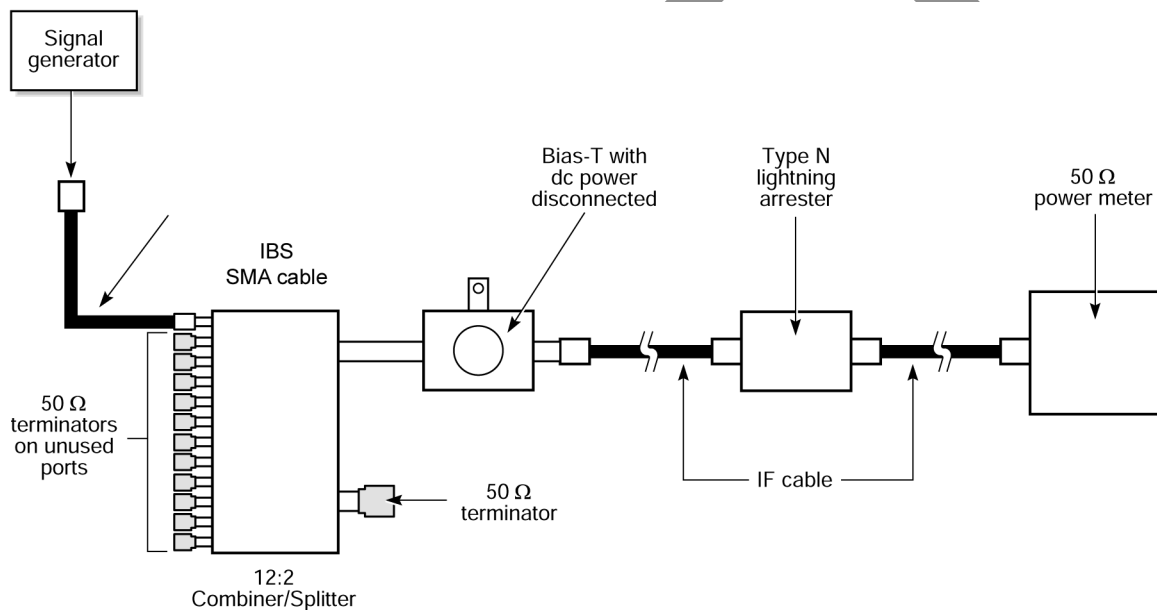

Figure 82 – BS IF cable calibration equipment setup
Figure 82 shows the equipment setup used to measure upstream or downstream cable loss. Measurements should be made at the lowest and highest frequencies of the upstream and downstream IF bands for your system. The average of the pair of measurements is used to determine the nominal amount of attenuation needed in the upstream and downstream paths.
2. Connect the signal generator to the appropriate SMA cable (IBS-TLX). Connect the power meter to the X-Pol RBS Tx/X-Pol RBS Rx IF cable. *Figure 82* shows the test setup.